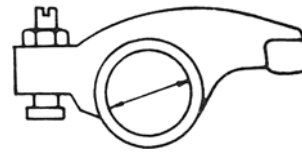

Figure 15
2. Measure the inside diameter of the rocker arm, see Figure 15. Replace the rocker arm if wear exceeds the specified limits page 28.